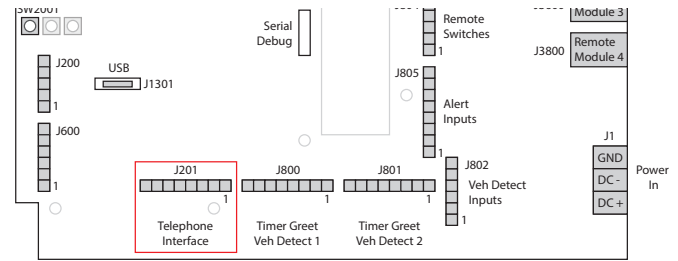

Fig. 12.3
4. Plug one end of the included base station interface cable into the RJ45 port on the TI7000. Open the base station and connect the other end to J201 on the base station PCBA. See Fig. 12.3 for J201 location.)